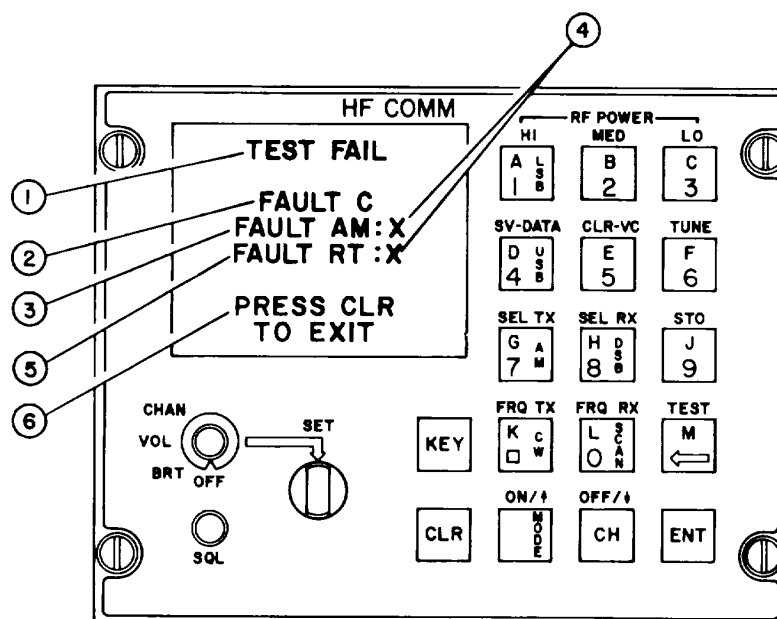

Figure 2-33. Failed Test Display
(2) **Failed test display.** Refer to figure 2-33. The failed test display has six lines of data. Explanation of the codes is as follows: